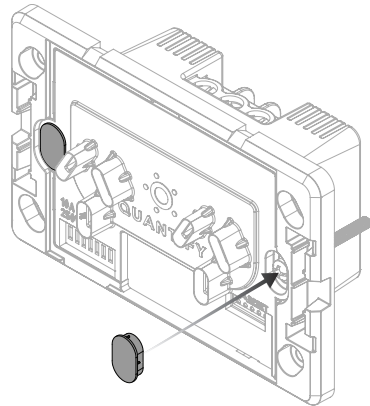

Figure 2: Screw Covers
- 3 Press screw caps over the fixings (see Figure 2).